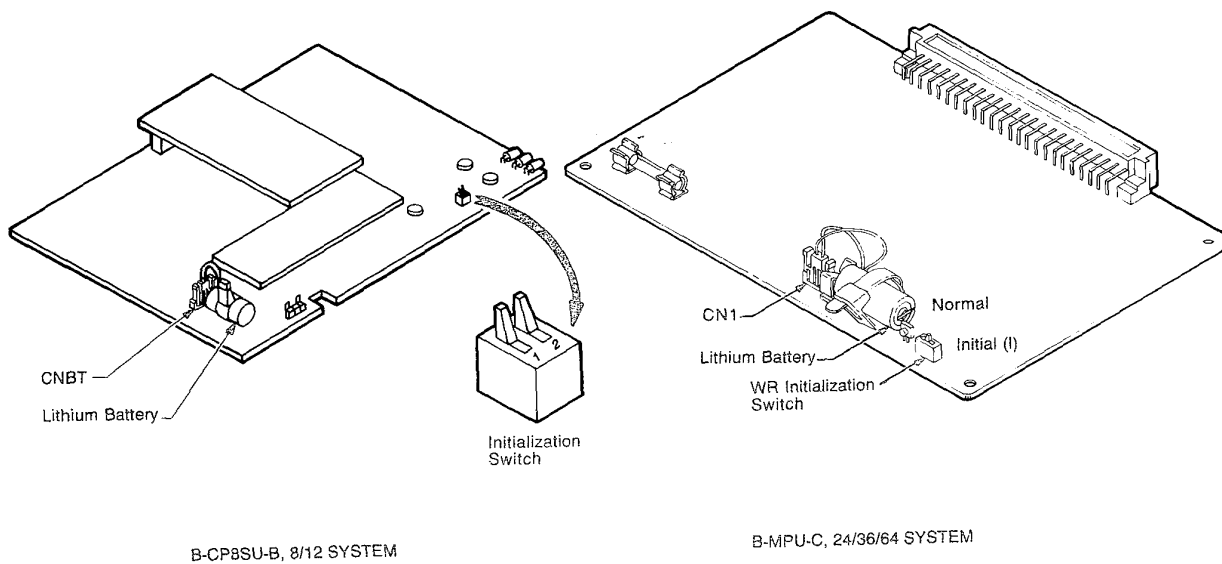

Figure 2-1 LITHIUM BATTERY AND INITIALIZATION SWITCHES
2. Disconnect the lithium battery from the CNBT/CN1 connector on the B-CP8SU-B or B-MPU-C (Figure 2-1).
3. Set the initialization switch (Figure 2-1):